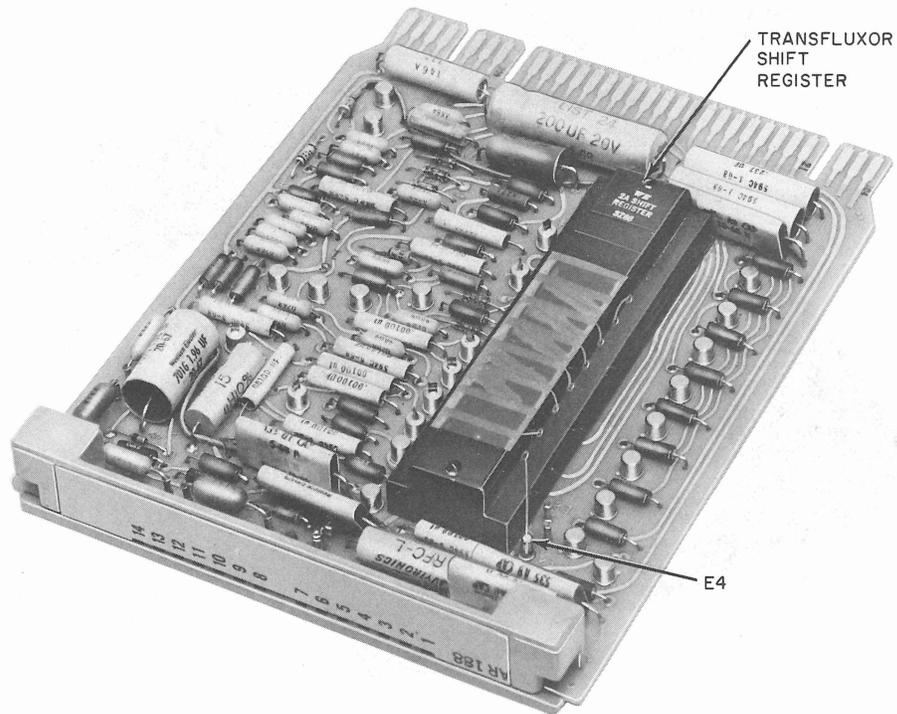

Fig. 12—AR188 CP Showing an Encoded Transfluxor Shift Register
- (1) Remove the power cord from the power receptacle.
- (2) Remove the card lock strip by loosening the screws holding it in place.
- (3) Use a 748A card extracting tool or the notched end of the lock strip to extract AR188 CP.
- (4) Inspect the transfluxor. It should have two 36-gauge wires threaded through each of the eight holes in the transfluxor (refer to Fig. 12). In the event the transfluxor has not been encoded, refer to the section entitled 85A1 Data Selective Calling Service Stations—100-Word Per Minute Half-Duplex Operation—Maintenance (581-131-300) for instructions on encoding the transfluxor.
- (5) Replace the AR188 CP in the data auxiliary set and reinstall the locking bar.